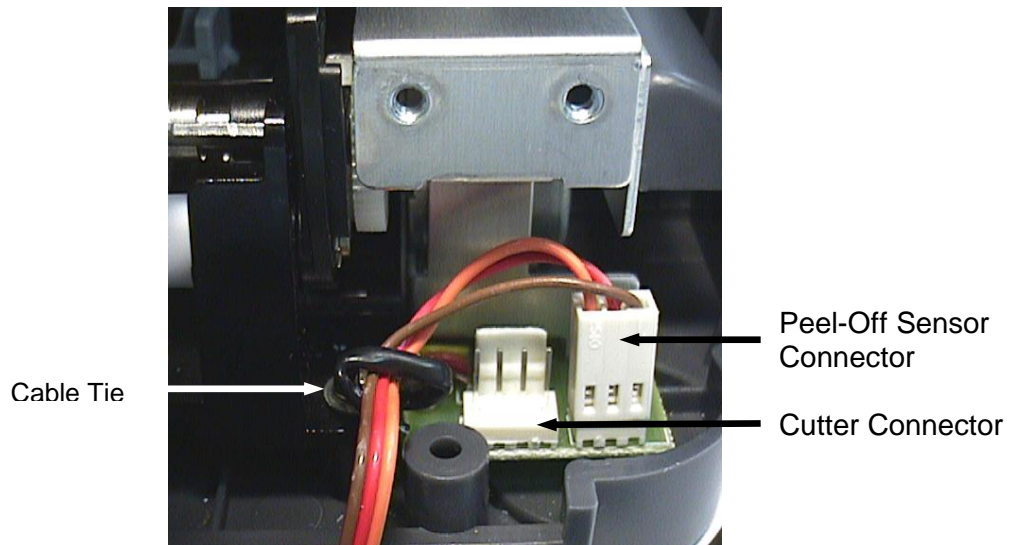

Fig. 3.16 Cable tie and peel-off sensor connector
5. Release the cable tie and remove the peel-off sensor connector. (Cf. Fig. 3.16)
6. Release the cable tie and remove the peel-off sensor connector. (Cf. Fig. 3.16)